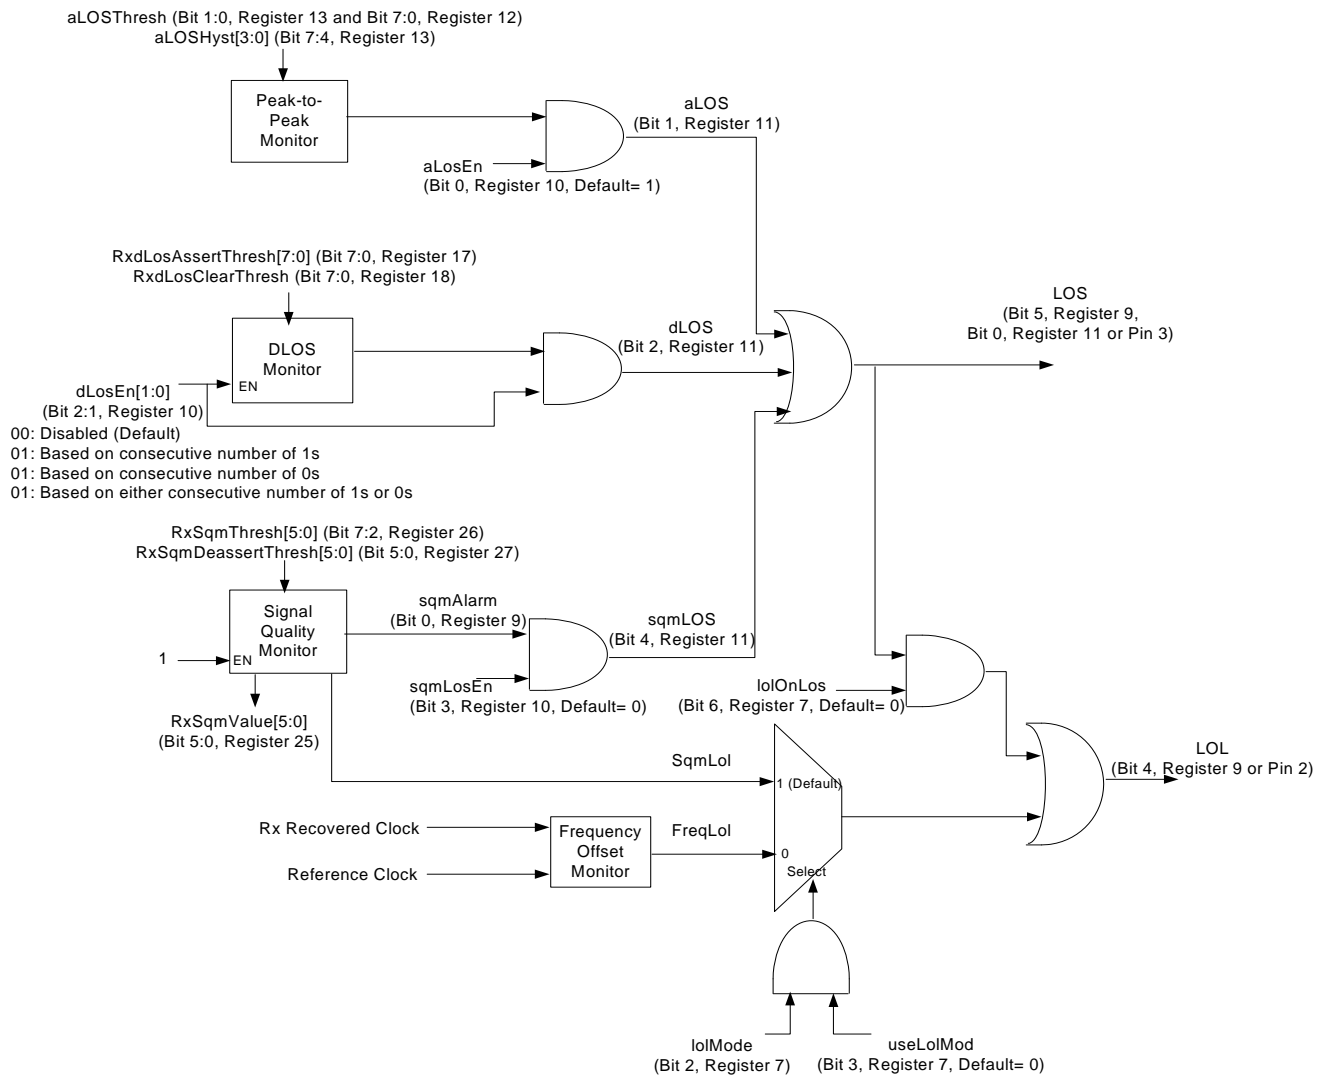

Figure 15. RX LOS and LOL Block Diagram
The Si5040 receiver generates a loss-of-signal alarm when the input signal fails to meet the selected programmable condition for loss of signal. The programmable LOS mode is controlled in the RxlosCtrl register (Register 10). The programmable modes are Analog Loss Of Signal (ALOS), Digital Loss of Signal (DLOS), and Signal Quality Monitor (SQM). As shown in Figure 15, one or more of these alarm signals is logically combined into the Receiver Loss of Signal (RX_LOS) alarm pin (Pin 3). The state of the RX_LOS alarm pin will also be reflected in the LOS bit in the RxAlarmStatus register (Register 9). LOS may also be configured to generate an interrupt. The status of the LOS interrupt bit may be read in the RxintStatus register (Register 5). The status of the various LOS modes is stored in the losStatus register (Register 11).
LOL may be configured to generate an interrupt. The status of the LOL interrupt bit can be read from the RxintStatus register (Register 5). The status of LOL may also be read from the RxAlarmStatus register (Register 9). LOL may also be asserted upon activation of LOS (see "5.4. Receiver Loss of Signal Alarm (LOS)" on page 20 and Figure 15 on page 26). Receive data (RD) may be squelched on LOL. This option is configured in the RxdPathConfig register (Register 28).